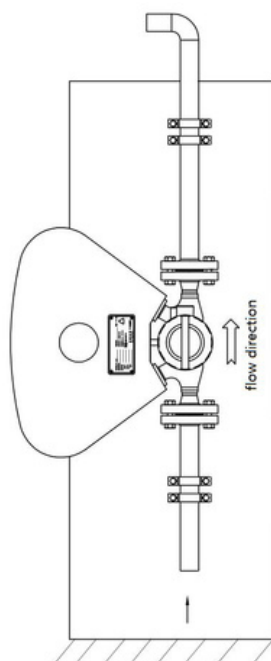

Figure 8.5
(3) When the measured medium is suspension, it is recommended that the sensor be installed like a flag. As shown in fig. 8.5, the flow direction of the medium flows through the sensor from bottom to top.